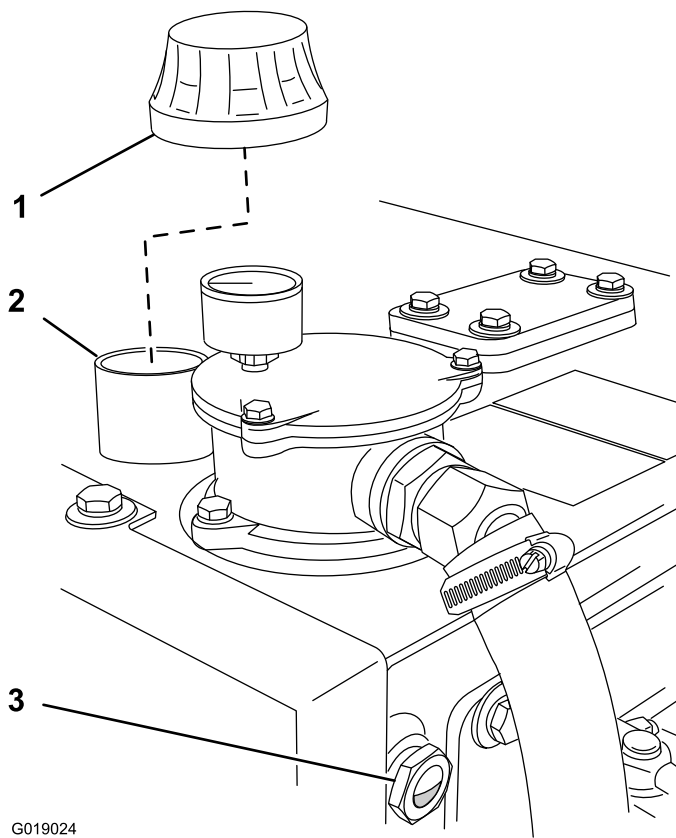

Figure 28
4. Clean the area around the cap/breather and filler neck of the hydraulic tank. Clean the hydraulic tank sight gauge (Figure 28).
5. Check that the fluid level displayed in the sight gauge indicates a 6.35 to 12.5 mm (0.25 to 0.50 inch) air bubble seen at the top of the gauge (Figure 28).